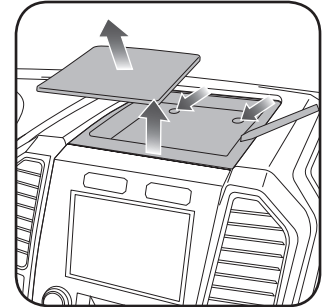

Fig. 1.1
If there is no center channel speaker: lift the rubber mat at the top of the dash (A), then remove (2) 7mm bolts from the tray (B), and remove it (C). (Fig. 1.1)